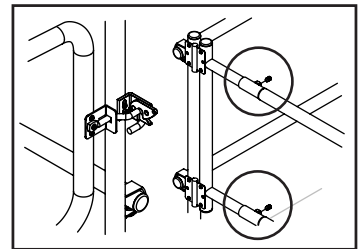

FIG. 3
- e.) Install telescoping side of the gate with installed hook onto the hinged piece to fit exit opening. Make sure the hook pin properly engages the latch catch and tighten set screws. (Fig. 3)